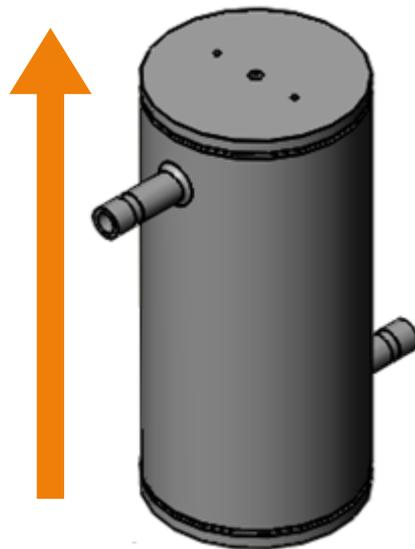

Fig. 1 Schematic diagram
1. It is recommended to fix the module vertically on a support. Connect to the water network through the quick-connect connector provided along with the module. Pay attention to the inlet and outlet port locations as shown in Figure 1.